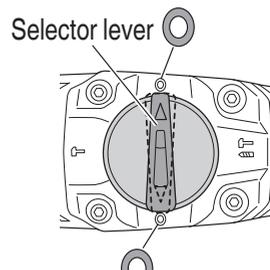

Fig. 7
- (2) When fixing working positions of tools such as cold chisel, etc.,
- (a) Turn the selector lever. Align ▲ of the selector lever and ● of the lever holder as illustrated in Fig. 7.